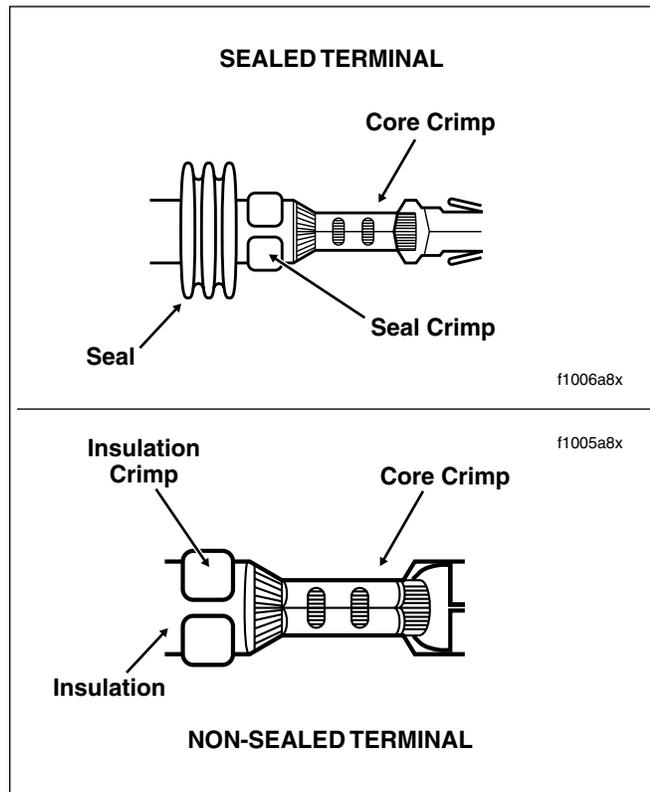

Figure 8-37. Inspect Core and Insulation/Seal Crimps
11. Inspect the quality of the core and insulation/seal crimps. Distortion should be minimal. See Figure 8-37.